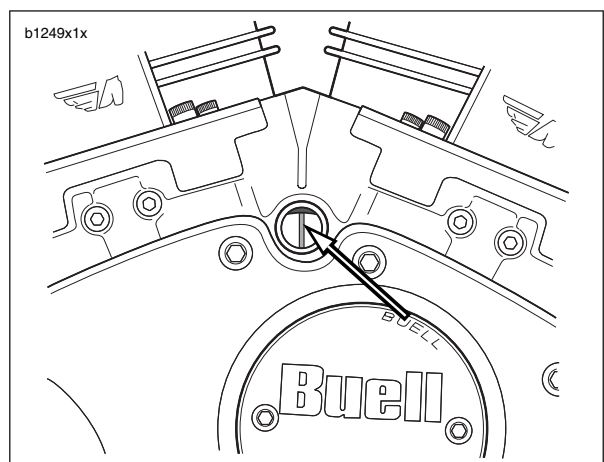

Figure 1-51. Correct Timing
9. See Figure 1-51. If the static timing is correct, the screen will switch to HIGH - 5 volts at the precise moment the timing mark exactly centers in the inspection window.